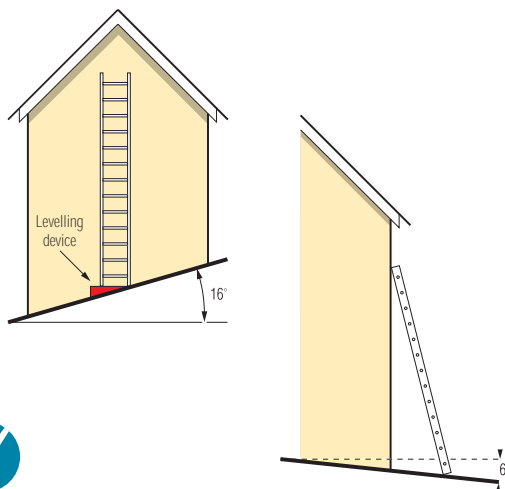

Figure 3 Ladder showing maximum angles at 16° on a side slope and 6° on a back slope
- side slope 16° – but the rungs still need to be levelled (see Figure 3);
- back slope 6° (see Figure 3);